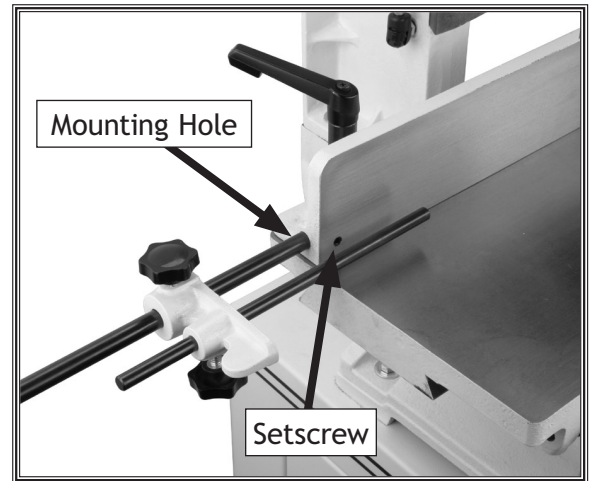

Figure 9. Installing the extendable workstop.
1. Slide the larger rod of the workstop into the mounting hole (Figure 9) on either end of the fence and tighten the setscrew.